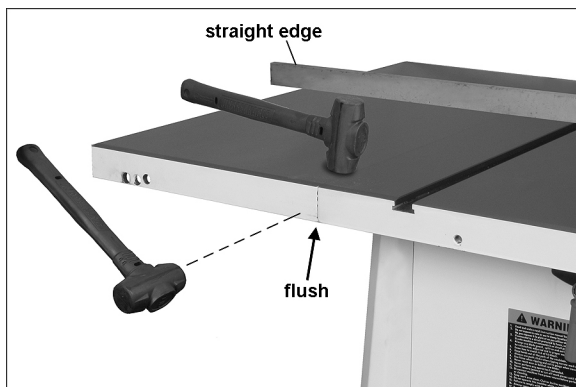

Figure 6-5: leveling extension wings, method 1
Method 1 (Figure 6-5):
3. Lay straight edge across saw table and extension wing, extending it out past edge of wing as shown in Figure 6-5.